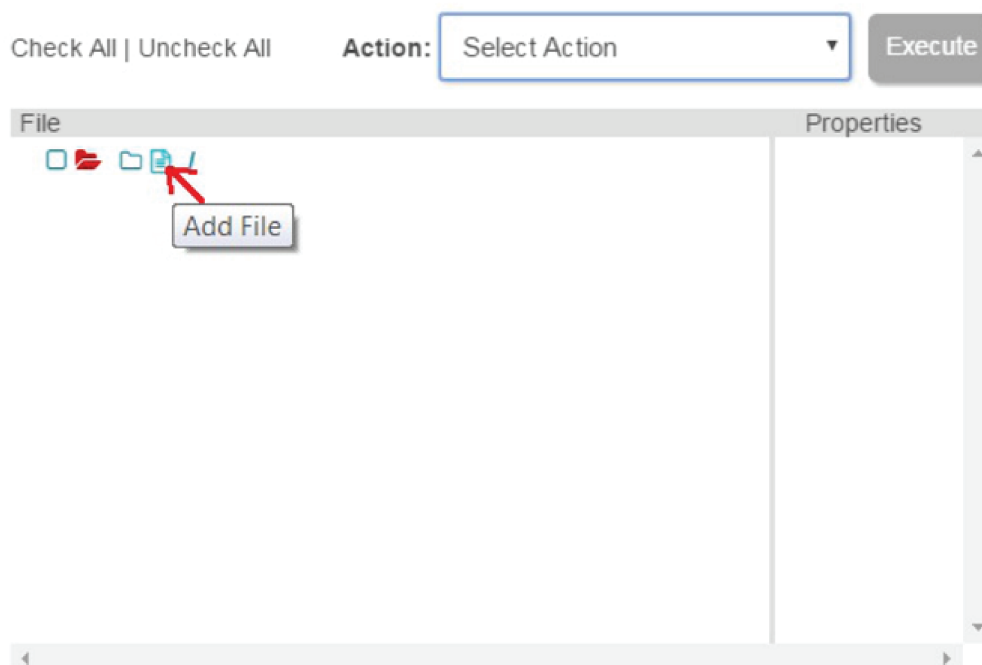

Figure 2-11. Add File
3. Select the User Files icon on lower-left side and click the Add File icon, as shown in Figure 2-11.